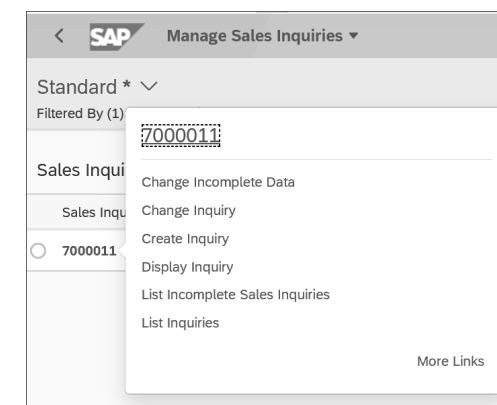

Figure 4.38 Manage Sales Inquiries: Context Menu
2. Click on your document number to open the context-sensitive menu shown in Figure 4.38.